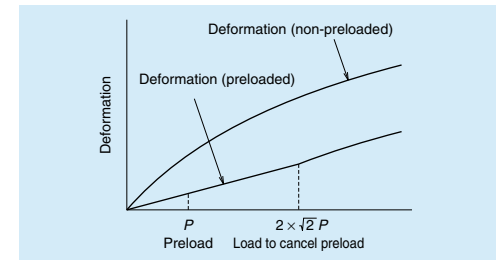

Fig. 3.2 Elastic deformation
- In general, the load range of ball guide system in which the preload is effective, is about 2.8 times of the preload (Fig.3.2). For roller guide system, it becomes about 2.2 times of the preload.